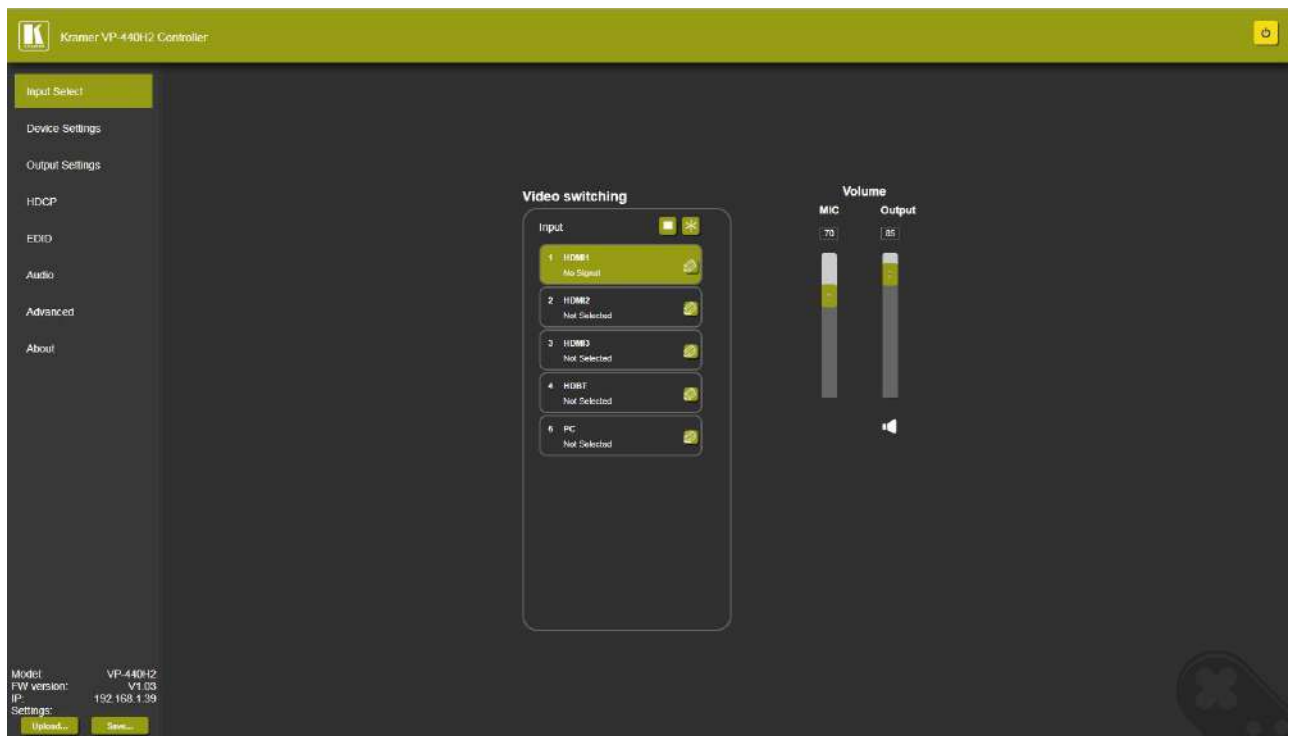

Figure 11: Controller Application Page with Navigation List on Left
1. Click **Input Select** on the left side of the web page (Figure 11). The Input Select page appears.
1. Click **Input Select** on the left side of the web page (Figure 11).
1. Click **Device Settings** on the left side of the web page (Figure 11). The Device Settings page appears.
1. Click **Device Settings** on the left side of the web page (Figure 11).
1. Click **Output Settings** on the left side of the web page (Figure 11).